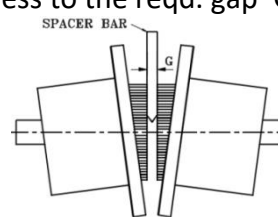

Fig. 3.2
- With one machine firmly bolted down, set the equipment at a distance 'G' (table 2) by using spacer bar equal to thickness to the reqd. gap 'G' as shown in fig. 3.2.